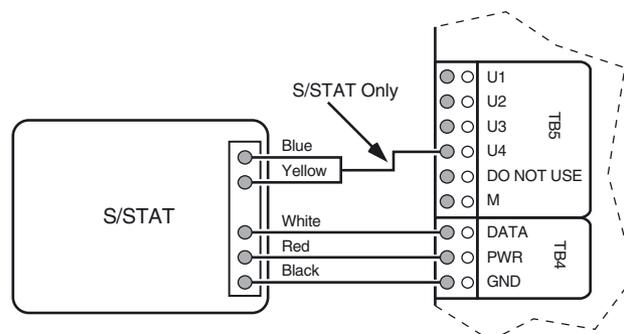

Figure 7. S/STAT Connection
5. Connect the black lead (ground) on the S/STAT to TB4-3 (Ground) on the controller (see Figure 7).
6. Twist the blue lead (slide pot override) and yellow lead (override push-button) on the S/STAT together, and connect them with a single conductor to TB5-4 (U4) (see Figure 7).